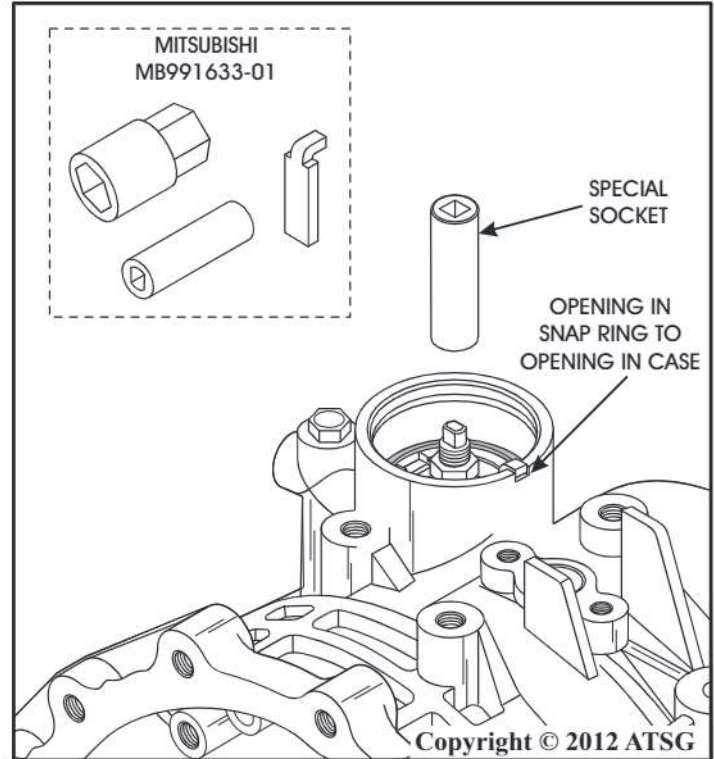

Figure 287
- Note:** Place the cavity in the piston and the opening in the snap ring, to opening in case as shown in Figure 287.
Note: Mitsubishi supplies a special tool to hold the piston from turning during the adjustment process, as shown in Figure 287.